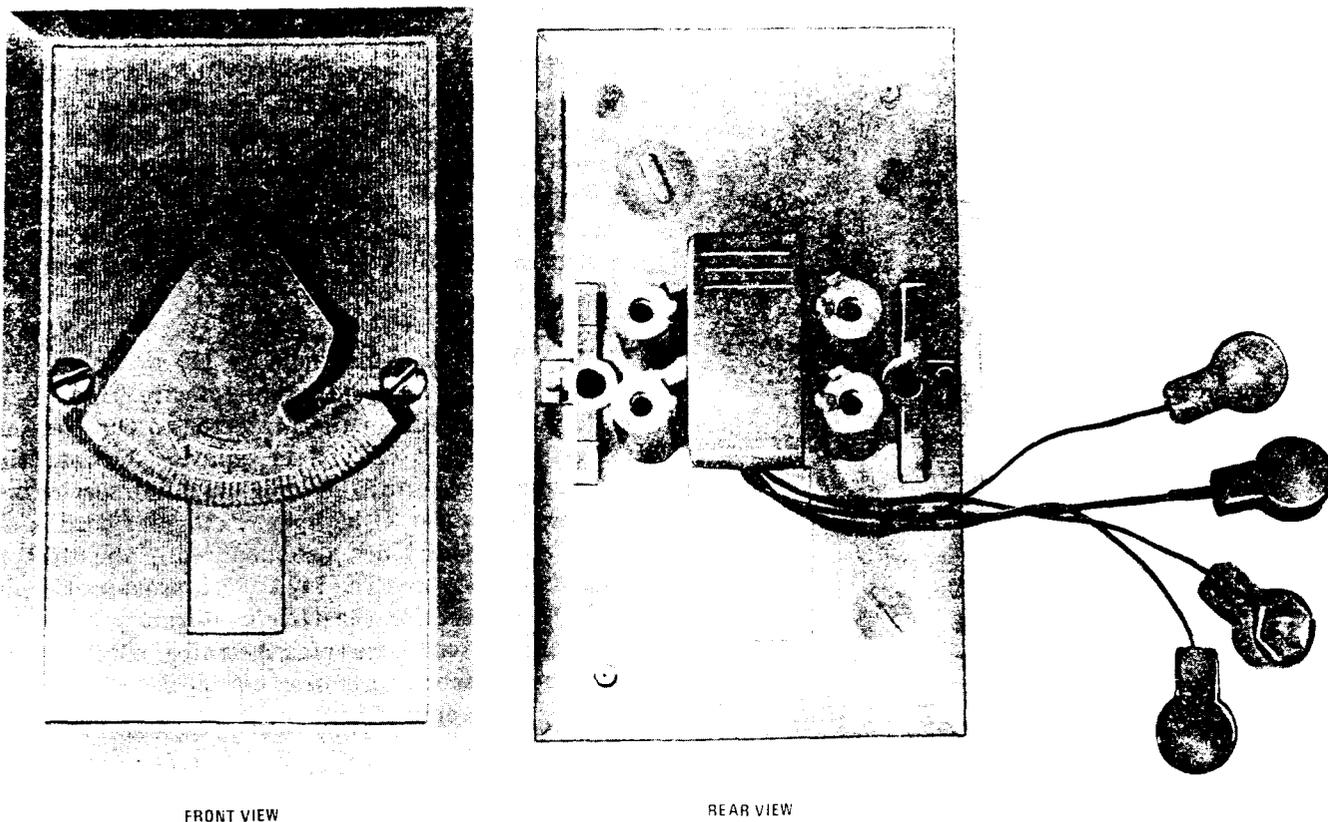
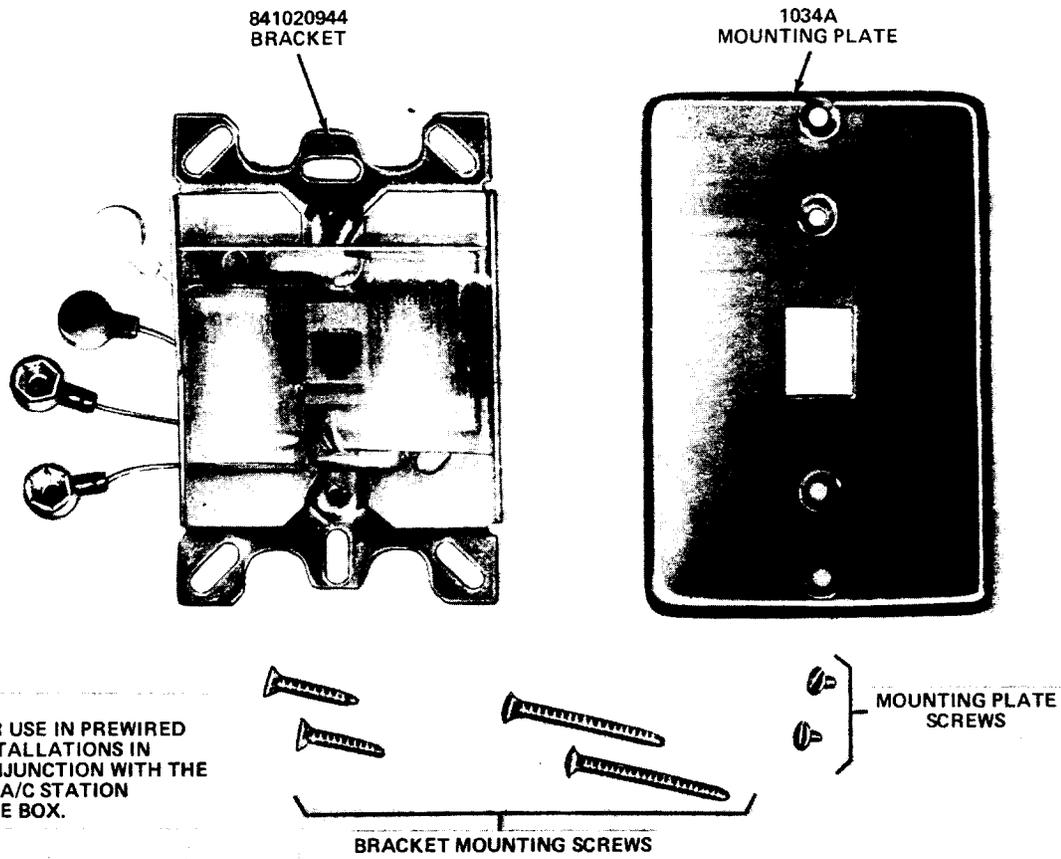
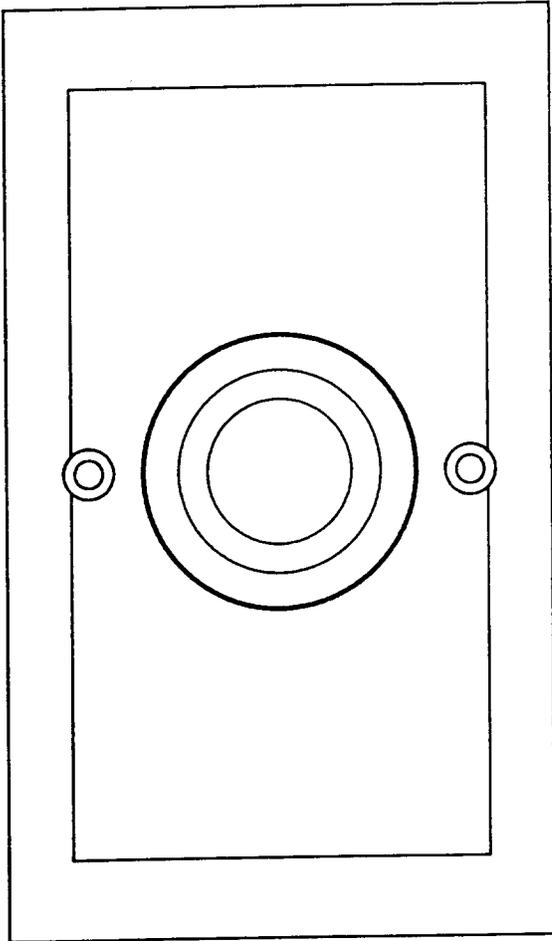

Fig. 3—725FS Connecting Block
Fig. 4—830A4 Connecting Block
Fig. 5—65B Faceplate
**2.03** The 800C station wire box is made of a high-impact plastic (Underwriter Laboratory Fire Rated) with four 990A split-beam connectors inside the box and a mounting flange around the outer edge. This flange allows for varying mounting conditions using nails or sheet metal screws. A temporary protective cover is provided with the box to protect the interior wiring during construction. The box is intended to mount the 725FS connecting block (Fig. 3) for desk-type telephone set installations and 830A4 (Fig. 4) connecting block for wall-type telephone sets. The 65B faceplate assembly (Fig. 5) is intended for use at unused telephone outlets.